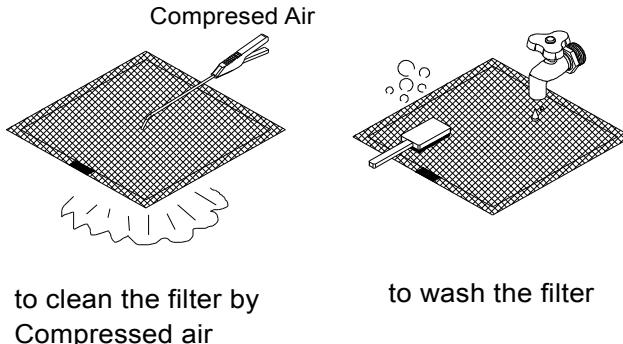
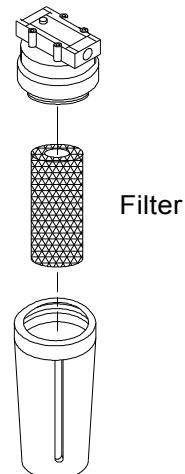

Figure 17
Figure 18
- (1) If it is necessary to open the cooler guard for interior maintenance, please be sure to switch off the main power first, and avoid touching the fan and heat source to prevent any injure.
- (2) Please use neutral detergent or soap to clean the surface of the cooler. Do not use acid solvent to prevent correction on the case. Be careful not to make water spray to electronic parts to case any damage.
- (3) Clean the filter net periodically. Spray off the dust with high-pressure air weekly. If the greasy dirt can't be removed by air, then use water and neutral detergent to wash it. (See Figure 17)
- (4) Use spraying air to clean the fins on the condenser. Make the high-pressure air through the fin by orthogonal direction.
- (5) The humidity might condense become water at the bottom of the reservoir, periodically vent the water and refill the coolant if necessary.
- (6) If there is any filter is installed at the inlet or outlet, please clean and replace the filter periodically. (See Figure 18)